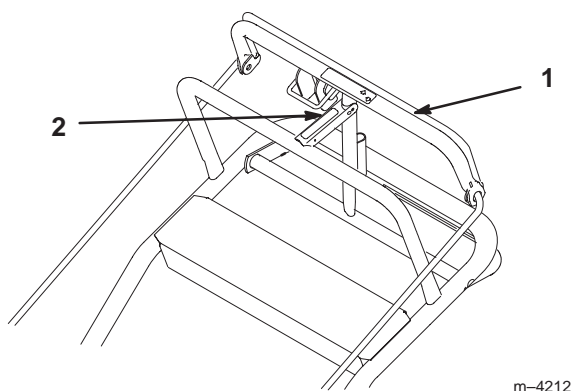

Figure 13
1. Pull the upper control bar rearward and hold it in this position (Fig. 13).
2. Lift the parking brake lock up and gradually release the upper control bar (Fig. 13). The brake lock should stay in the set (locked) position.
1. Pull rearward on the upper control bar (Fig. 13). Lower the parking brake lock to the released position.